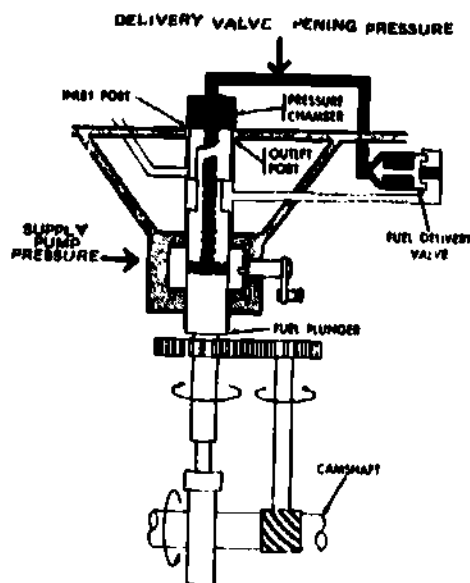

Fig 3-15. Beginning of delivery phase.
- (2) **Beginning of delivery** (fig 3-15). The second or beginning of delivery phase starts when the camshaft lobe lifts the plunger enough to close off the fuel inlet and outlet ports. The plunger pressurizes the fuel in the pressure chamber, the fuel spill passage, and the passage leading to the fuel delivery valve. The fuel pressure must reach about 250 psi before the delivery valve opens.